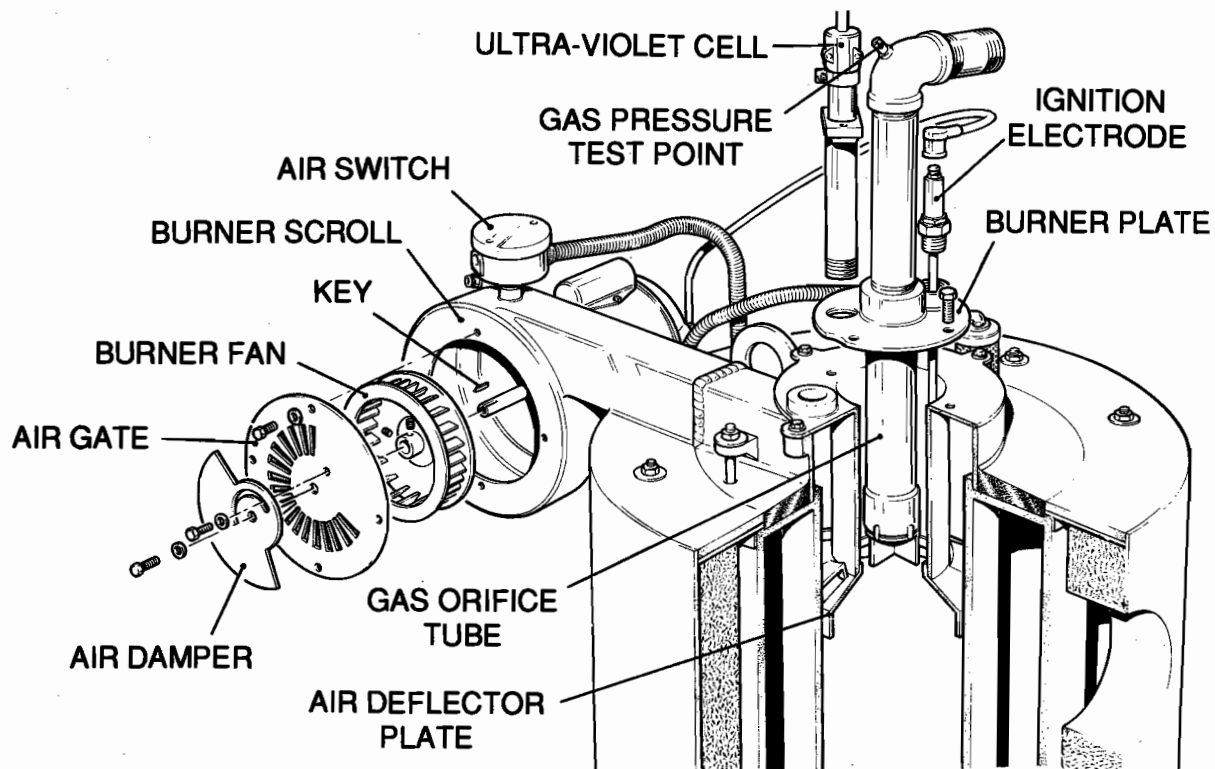

FIG. 13 BURNER ASSEMBLY
(4) Referring to Fig. 13, disconnect the gas head from the burner by unscrewing the union and removing the burner plate screws. Withdraw the burner assembly and clean the ignition electrodes and reset. If an ultra-violet cell is fitted, check that the lens is clean.